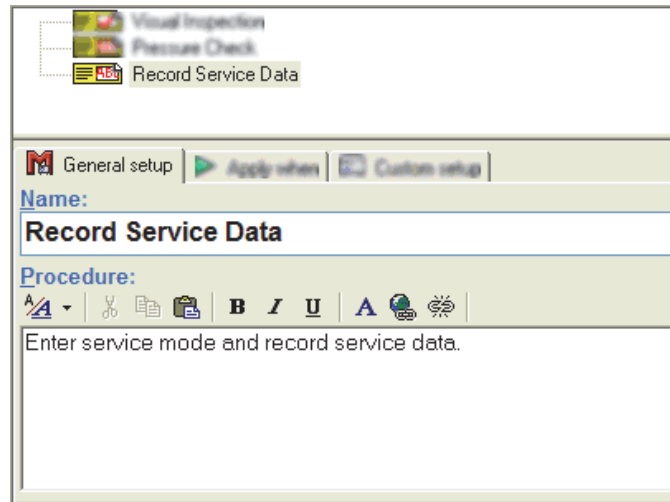

Figure 3-45. Configuring a General List
- Click in the **Procedure** textbox and write a procedure that describes how the test is to be carried out to the field user. See Figure 3-45.